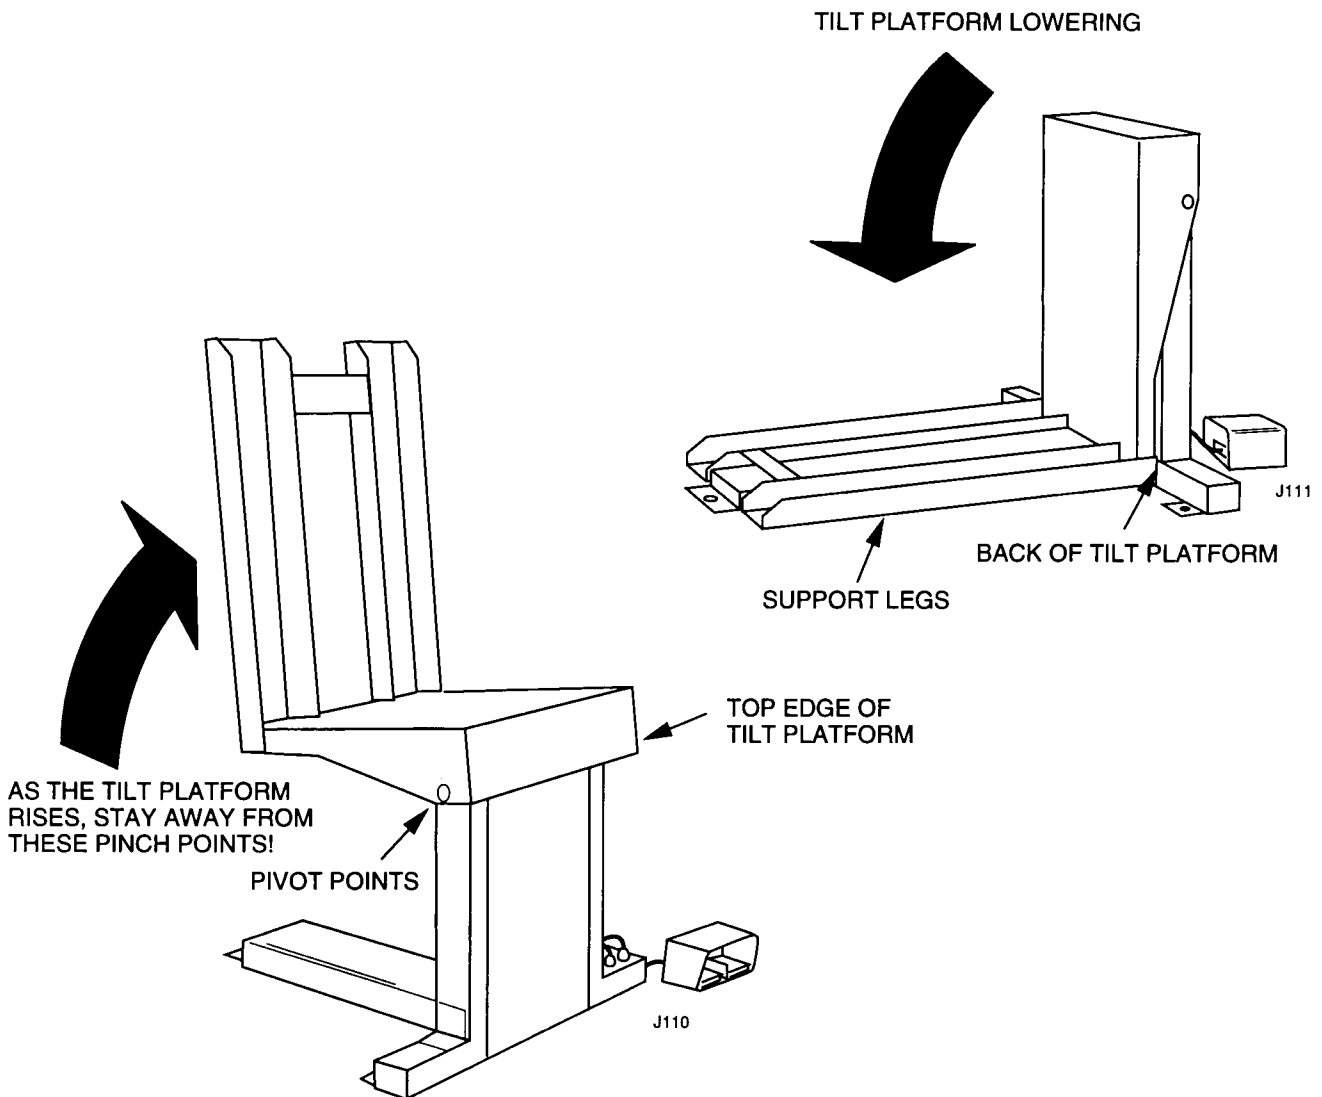

Fig. 2. Pinch Points
| Fig. 2 | Pinch Points..... | 6 |
As the tilt platform moves up and down, "pinch points" are created at the places shown in Fig. 2. If you are standing too close to the unit when it is moving, your arm or leg may be caught in the moving parts, and you may be hurt. Stay away from the pinch points when the unit is moving.
As the tilt platform moves up and down, “pinch points” are created as shown in Fig. 2. Stay away from these pinch points! Part of your body or clothing may become caught, and you may be hurt. Do not put your hands or feet under the tilt platform. Do not stand or sit on the tilt platform.
- **As the unit moves up and down, "pinch points" are formed as shown in Fig. 2. Keep hands, feet, and loose clothing away from these pinch points. If your hand or arm or a part of your clothing is caught, you may be hurt.**